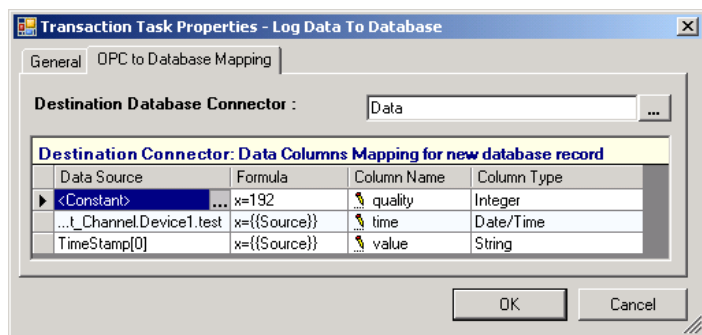

Figure 13 - Log Data to Database block Configuration
**Step 5** is where we actually write the data to the database. The **OPC to Database** block is used for this. This block collects the OPC value of the RTU and writes this value to a new value in the database. Configure the OPC to database as shown in Figure 13.